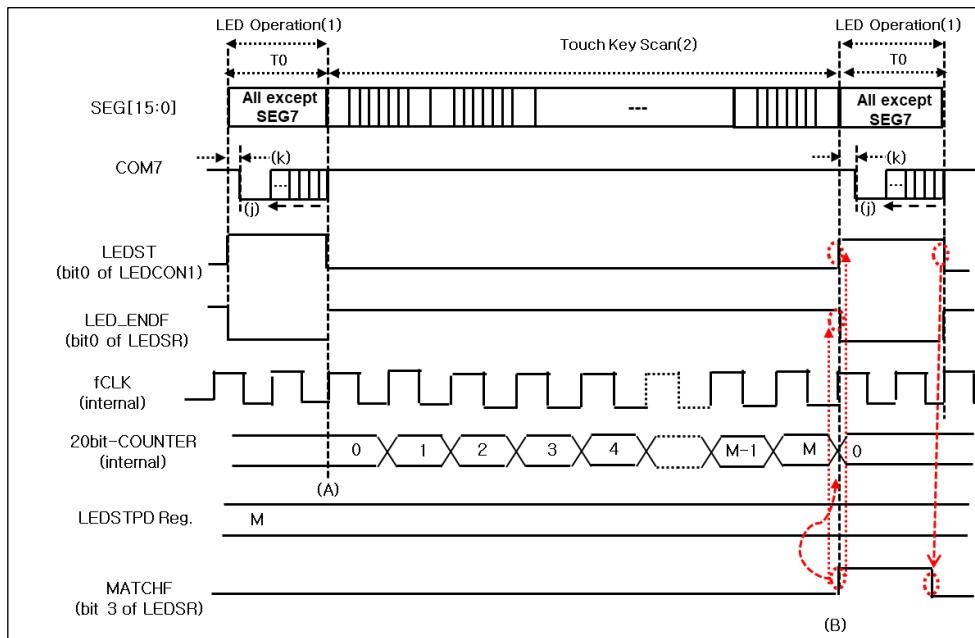

Figure 112. LED Stop Count Mode
Figure 112 show LED STOP Count mode in case of CSER = 1000\_0000B. An interrupt occurs at point (A) here the LED operation terminated when LED\_INTE is set.